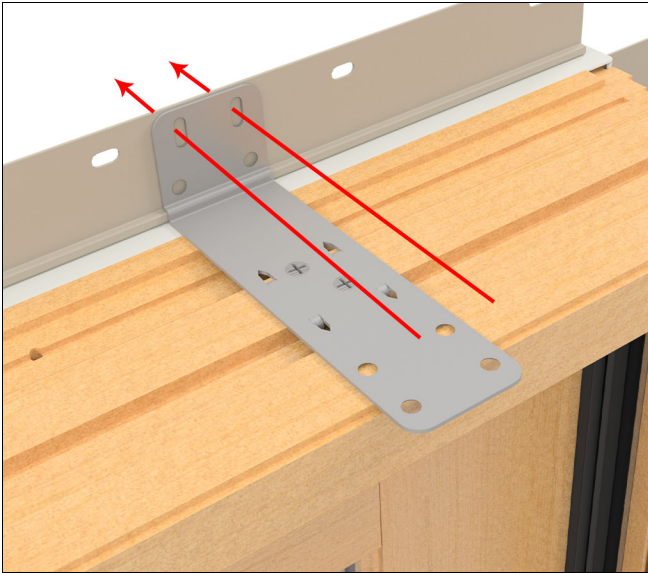

Figure 14
8. From the interior drill through the bracket and the nail fin. This will show you where to fasten the bracket to the RO later. See Figure 14.